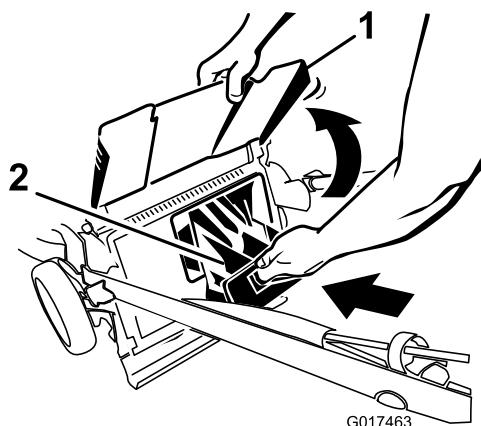

Figure 23
**Important:** Ensure that the rear-discharge plug is locked in place. To lock the plug: Raise the discharge deflector (Figure 23), firmly push the plug in until it snaps into place behind the tabs, and rotate the lever on the plug to the left (Figure 24).